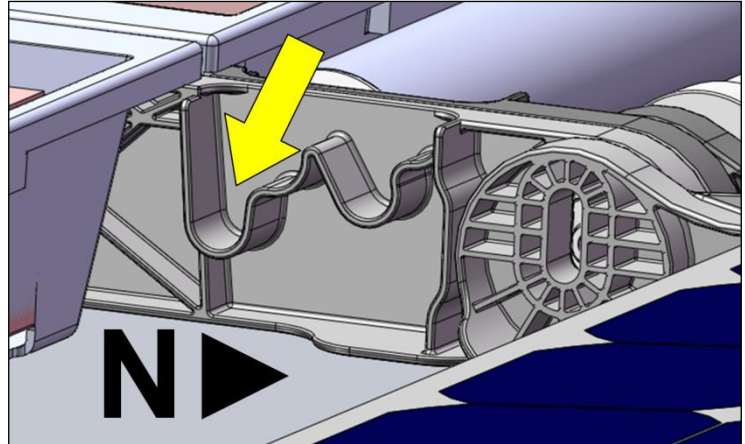

Fig. 36
1. Fit the ends of the Type D ballast into the south slot pairs on the north module feet (Fig. 36).